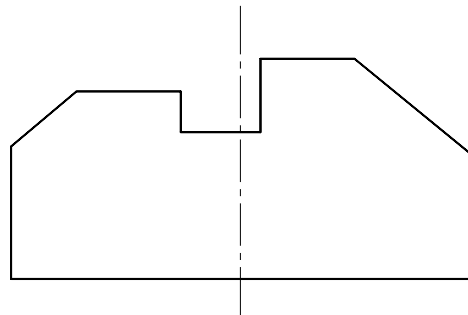

Figure 11-9 Sketch after drawing the centerline
2. Draw a vertical centerline that passes through the midpoint of the horizontal line at the bottom, as shown in Figure 11-9.